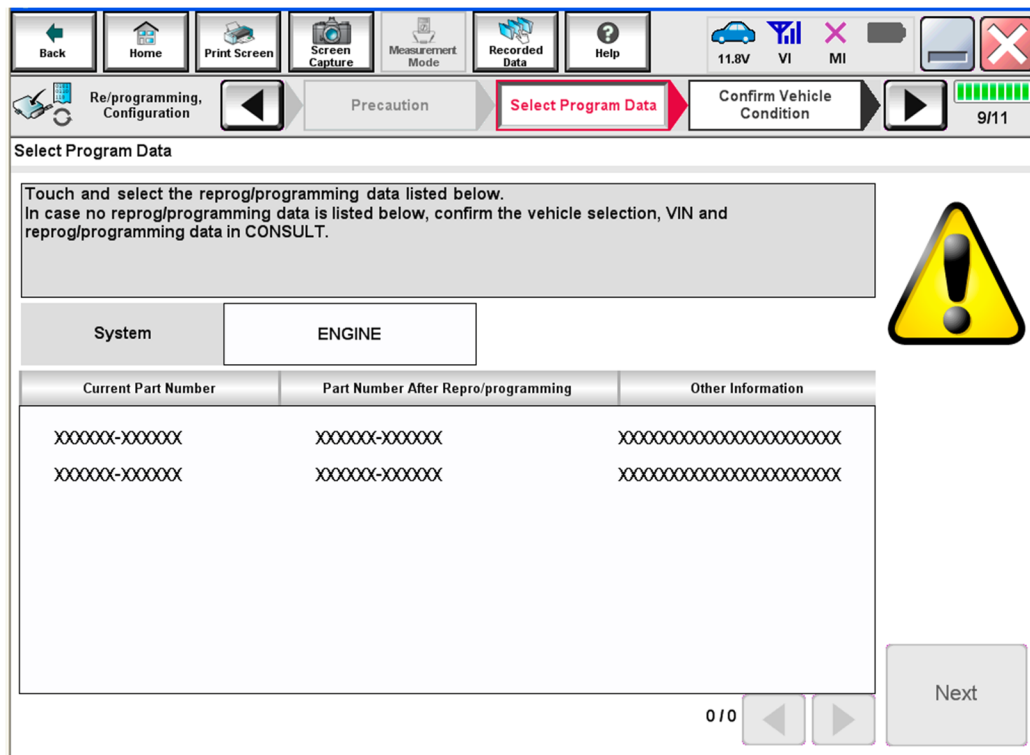

Figure 7
- If more than one new P/N is available, the screen in Figure 7 displays.